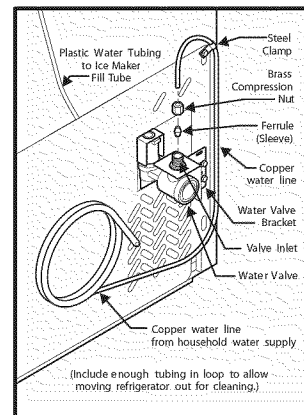

Figure 1
4. **If you use copper tubing** - Slide brass compression nut, then ferrule (sleeve) onto water supply line. Push water supply line into water valve inlet as far as it will go (¼ inch / 6 mm). Slide ferrule (sleeve) into valve inlet and finger tighten compression nut onto valve. Tighten another half turn with a wrench; DO NOT overtighten. See Figure 1.